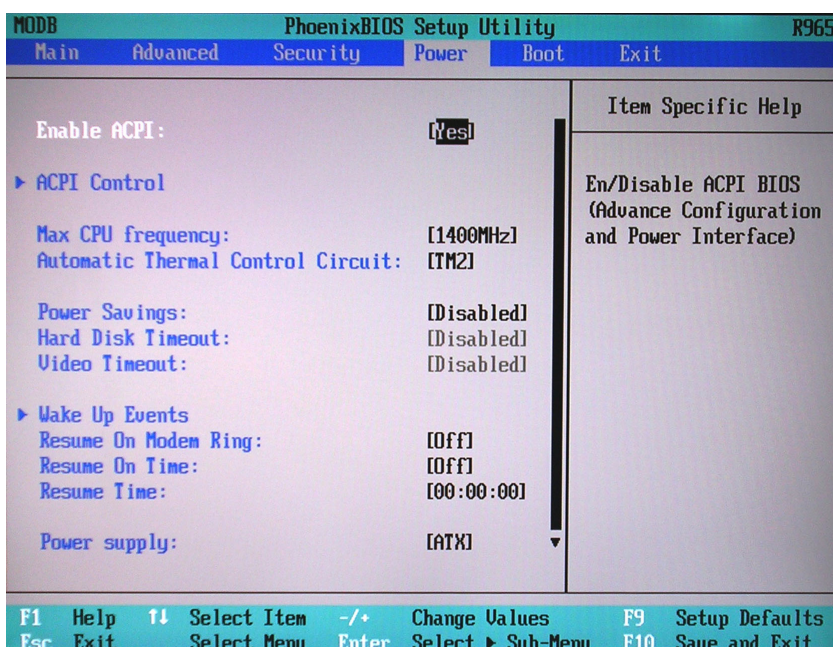

Figure 8-122 BIOS Power Parameters
Power	Figure 8-122 on page 8-121
6.) Set the parameters in the **Power** screen as shown above in Figure 8-122.